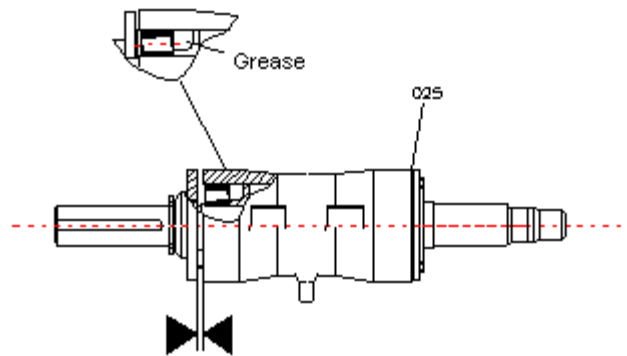

Fig. 3
2. Apply grease to the bearing by hand to fill the space between the cone and the rollers. Spread the remaining grease between the bearing and the grease retainer (see fig. 3);